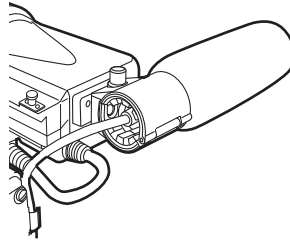

Fig. 2
- 2** Attach the microphone and tighten the clamping screw. (Fig. 2)